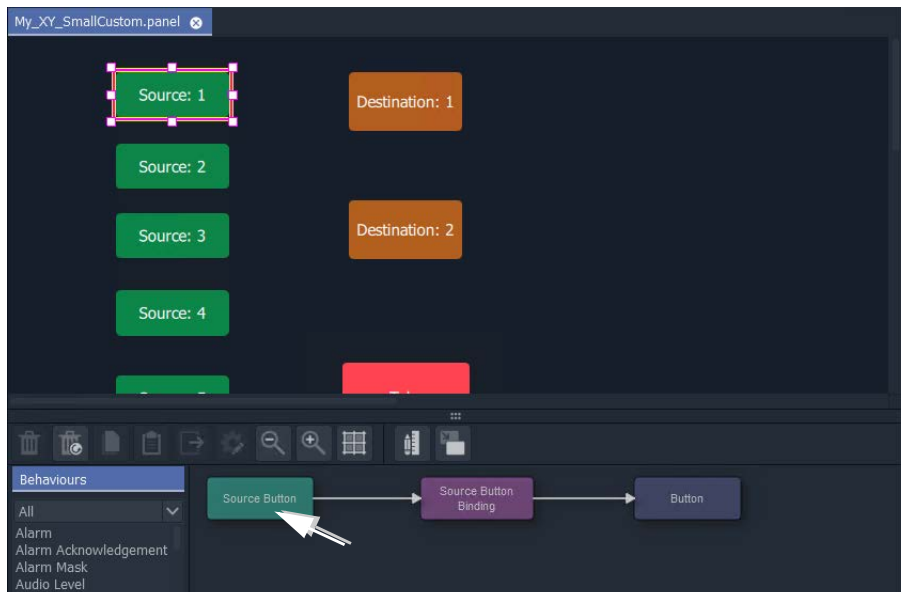

Fig. 14-45: Double-click on 'Source Button' Behaviour
- 2 Select a Source button in the XY Panel and double-click on the 'Source Button' Behaviour in the editor. See Figure 14-45.